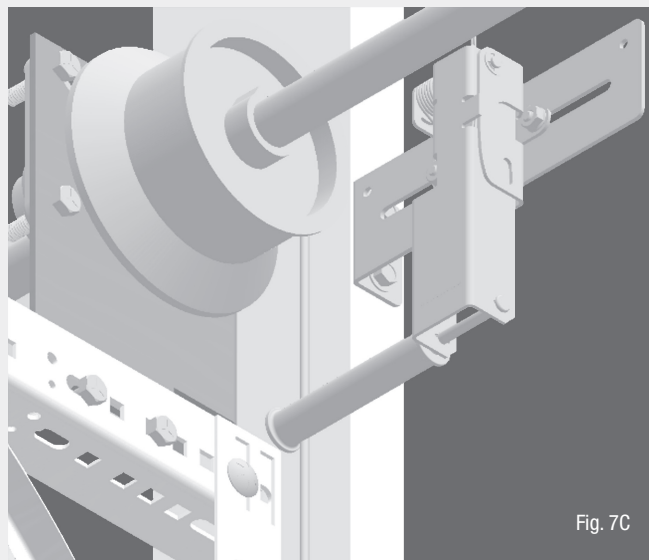

Fig. 7C
- Fasten bracket flange to side wall of jamb using two (2) 5/16" lag screws.
- Make sure plastic sleeve is on the outside of the cable as shown and tighten down nuts using 7/16" socket. See Fig. 7C.